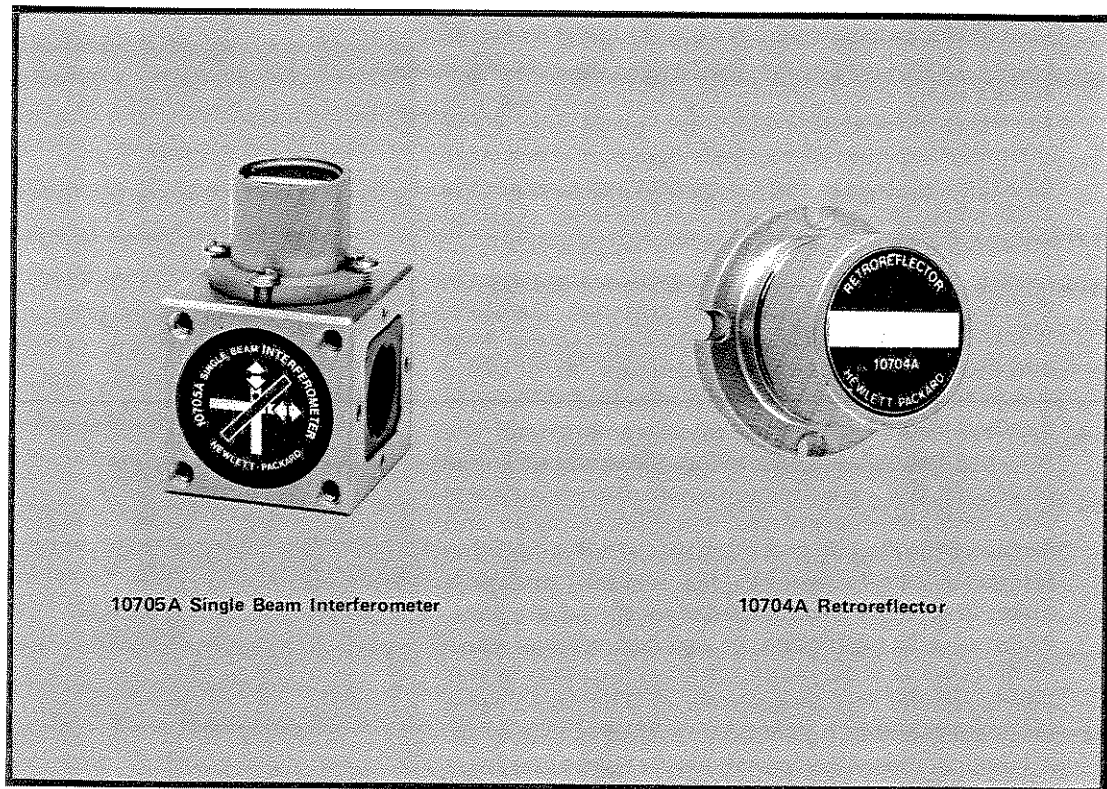
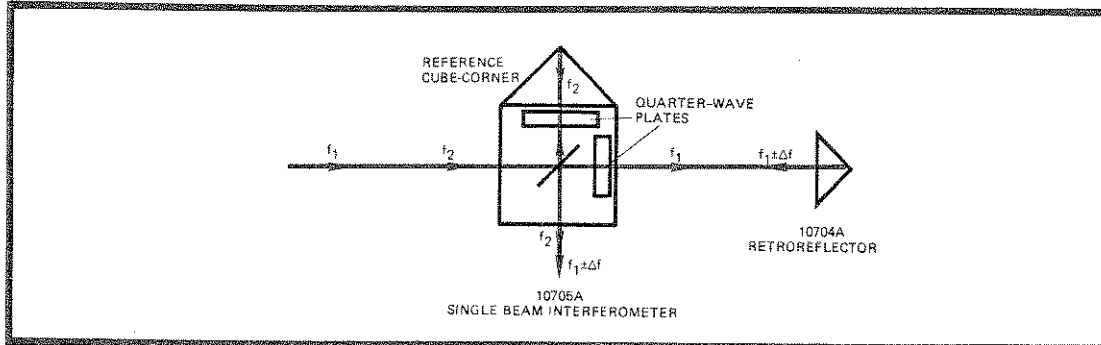

Figure 2-13. 10705A Single Beam Interferometer and 10704A Retroreflector
Figure 2-14. Single Beam Interferometer Laser Beam Path
2.13 10705A SINGLE BEAM INTERFEROMETER AND 10704A RETROREFLECTOR (Figure 2-13). A single beam interferometer is so called because the outgoing and returning beam are superimposed on each other giving the appearance of only one beam traveling between the interferometer and the retroreflector. This interferometer operates the same as the standard interferometer functionally but it is advantageous when space for optics and beam paths is at a premium. The retroreflector is again a cube corner but it is considerably smaller than the standard cube corner and the interferometer is smaller than the standard interferometer. One significant difference is that the receiver in this case is mounted at right angles to the measurement beam and the **interferometer cannot be moved**. A diagram of this type of interferometer is shown in Figure 2-14.
2.14 SINGLE BEAM INTERFEROMETER LASER BEAM PATH. A polarizing beam-splitter reflects f_2 to the reference cube corner and transmits f_1 to the 10704A Retroreflector or other surface whose displacement is being measured (Figure 2-14). The return path is superimposed on the outgoing path. Since both beams leaving the beam-splitter pass through a quarter-wave plate the returning polarizations are rotated through 90 degrees. This causes f_2 to be transmitted and $f_1 \pm \Delta f$ to be reflected so that they are directed coaxially to the receiver along a path perpendicular to the measurement path.